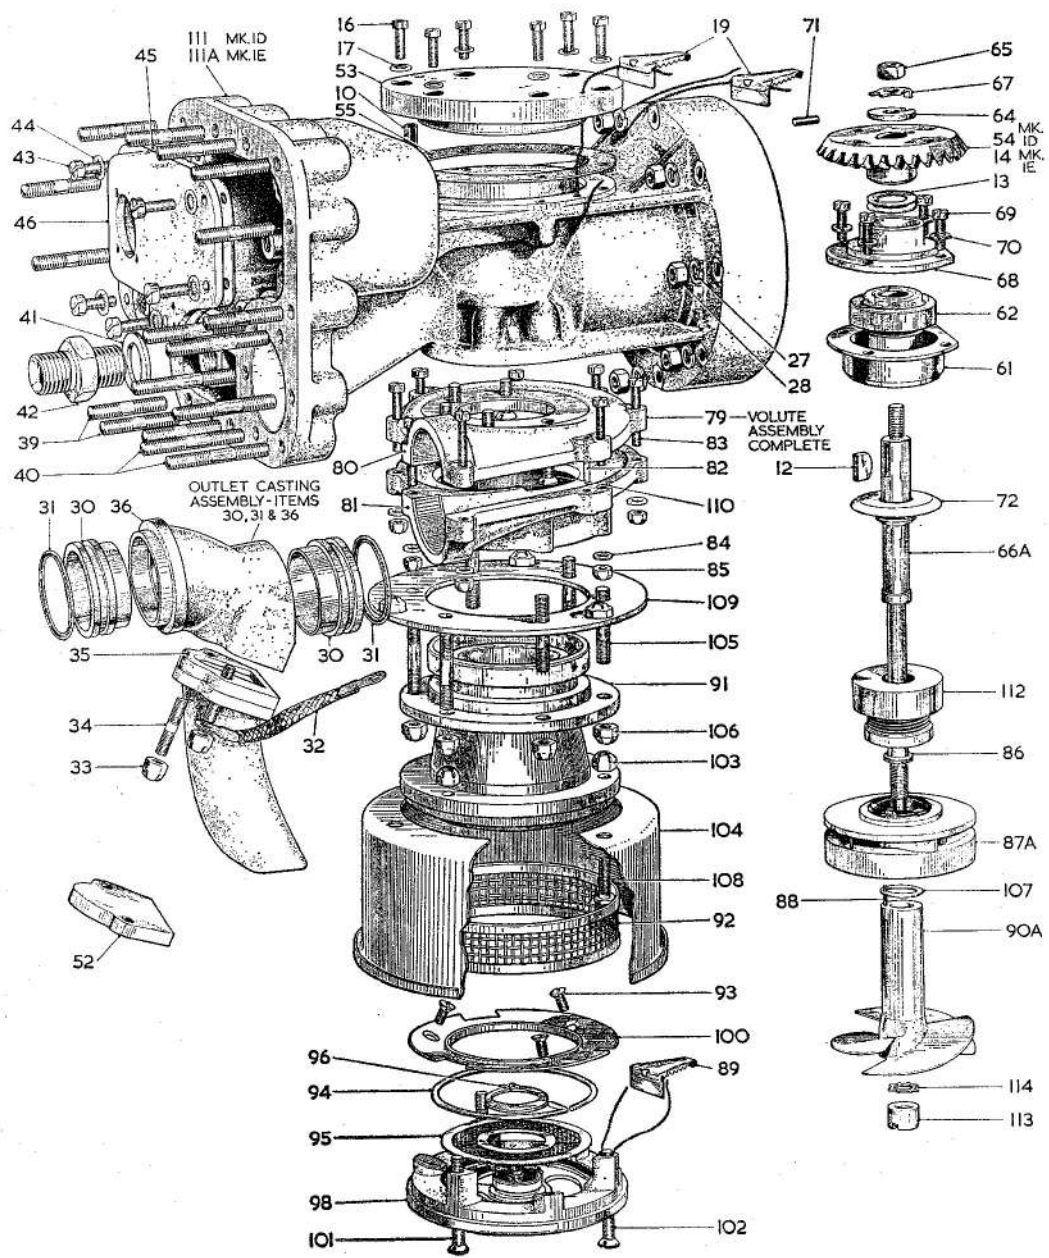
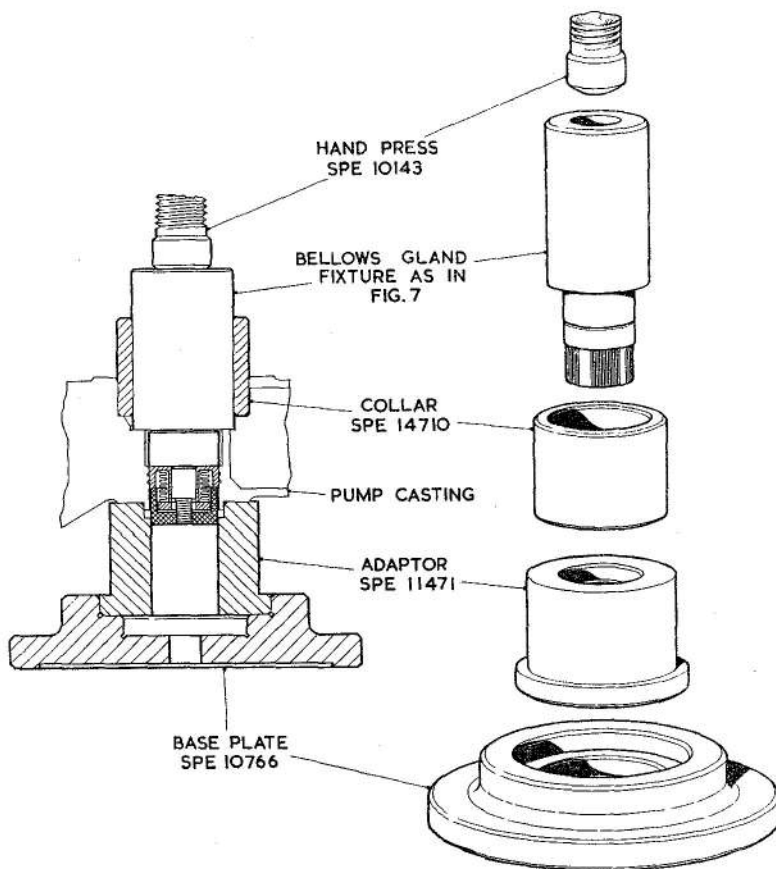

Fig. 3. Exploded view of pump unit (SPE. 404 Mk. 1D and 1E)
Fig. 8. Tools for positioning the bellows gland
casing. Generally as for Mk. 1G but no brush box rivet insulator (121, fig. 3) is fitted. The brush box assembly with a thicker carrier plate is used in place of (120).
(4) Assembling the motor end casing sub-assemblies. Generally as for Mk. 1G but no alignment hole and slot in the end casing and stator assembly respectively.
(5) Pre-bedding the brushes.
(6) Determining the brush gear geo-
(b) Pre-heat the pump casting (111-Mk. 1D, 111A-Mk. 1E, app. 1, fig. 3) to between 125 and 150°C. Smear the shroud of the bellows unit with 'Well-seal' jointing. Insert the bellows unit into the pump casting using the tools illustrated in App. 1, Fig. 8 in the hand press SPE. 10143. Turn the
(9) Assembling the volute.
(10) Assembling the delivery outlet.
(11) Assembling the volute assembly to the pump casting.
(12) Assembling the upper bearing and pump shaft. Generally as for the Mk. 1G but the pump shaft is of different design to suit the bellows gland.
(13) Shimming the centrifugal impeller. Generally as for the Mk. 1G pump but the impeller incorporates a carbon gland seating (87A) in place of (87, fig. 3).
(14) Assembling the helix casing and impeller. Use impeller helix (90A, app. 1, fig. 3) in place of (90, fig. 3). Use a shakeproof washer (114, app. 1, fig. 3) and the round nut (113) to secure the helix. Tighten the nut with the special driver SPE. 13831 (app. 1, fig. 4).
Key to Fig. 3
- (b) Pre-heat the pump casting (111A) to between 125 and 150°C. Smear the shroud of the bellows gland with Wellseal jointing compound and press the gland into the pump casting using the tools illustrated in App. 1, Fig. 8 in the hand press SPE. 10143. Turn the handle of the press to the limit of its travel as determined by the tooling to correctly position the gland in the casting.
- (9) Assembling the volute.
- (10) Assembling the delivery outlet.
- (11) Assembling the volute assembly to the pump casting.
- (12) Assembling the upper bearing and